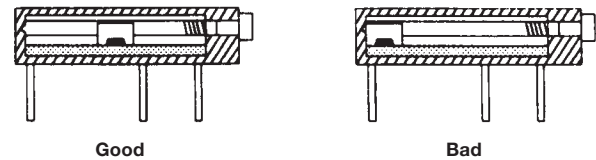

Figure 6
For screw actuated trimmers, make sure the position of the wiper is *not* in contact with either end termination before pre-heating and soldering as illustrated in *Figure 6*.
**1. General Soldering Precautions.** Before pre-heating and soldering screw actuated trimmers, make sure the position of the wiper is *not* in contact with the end terminals, as illustrated in *Figure 6*, to avoid malfunction of trimmers.